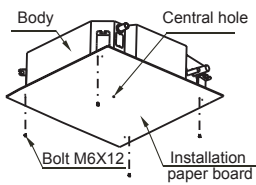

Fig. 5-8
- 2 After installing the body, please fasten the installation paper board onto the air conditioner with bolts(M6X12) to determine in advance the sizes and positions of the hole opening on ceiling.(refer to fig.5-8)